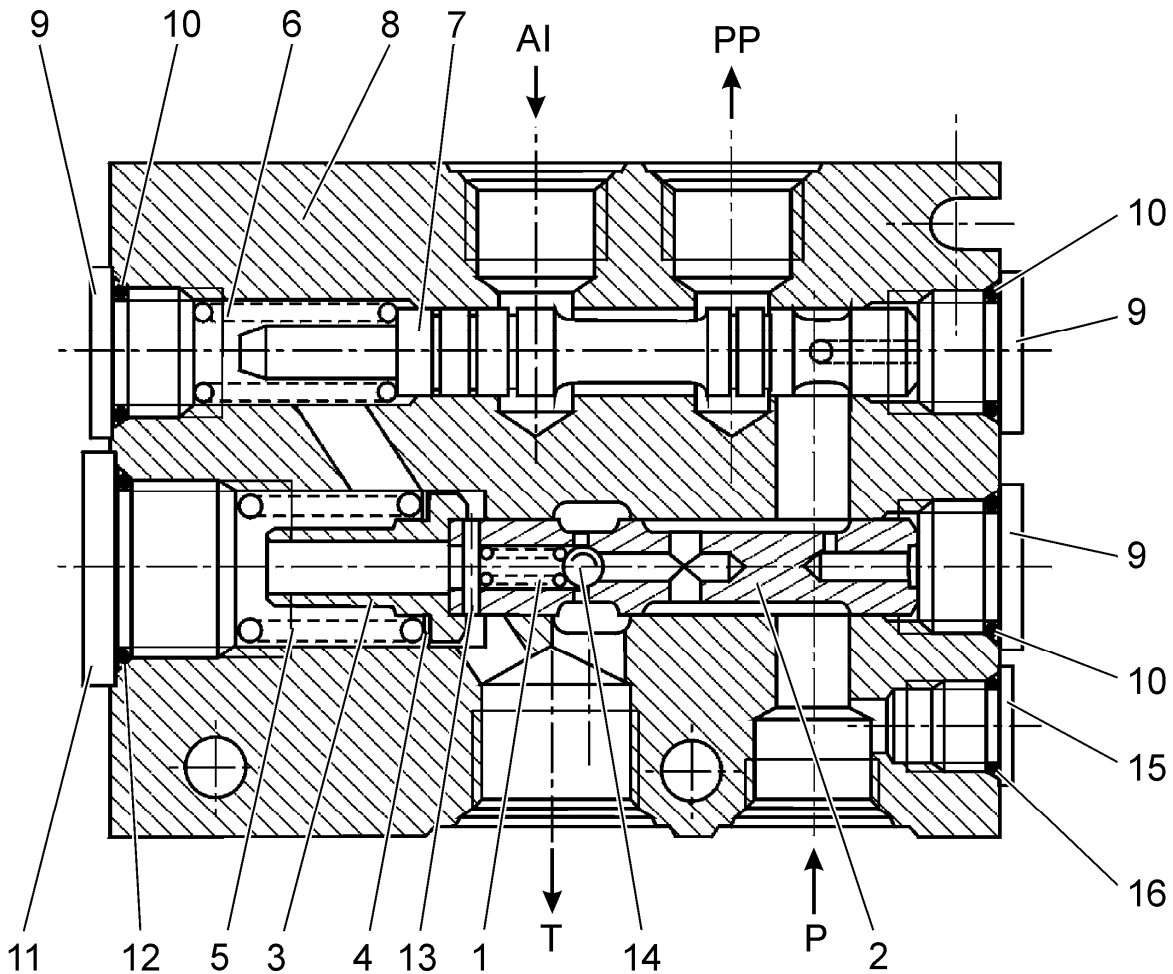

Fig. 10B.11. Cross Section View of Pilot Pressure Valve
14. REMOVAL AND INSTALLATION (Refer to Fig. 10B.12)